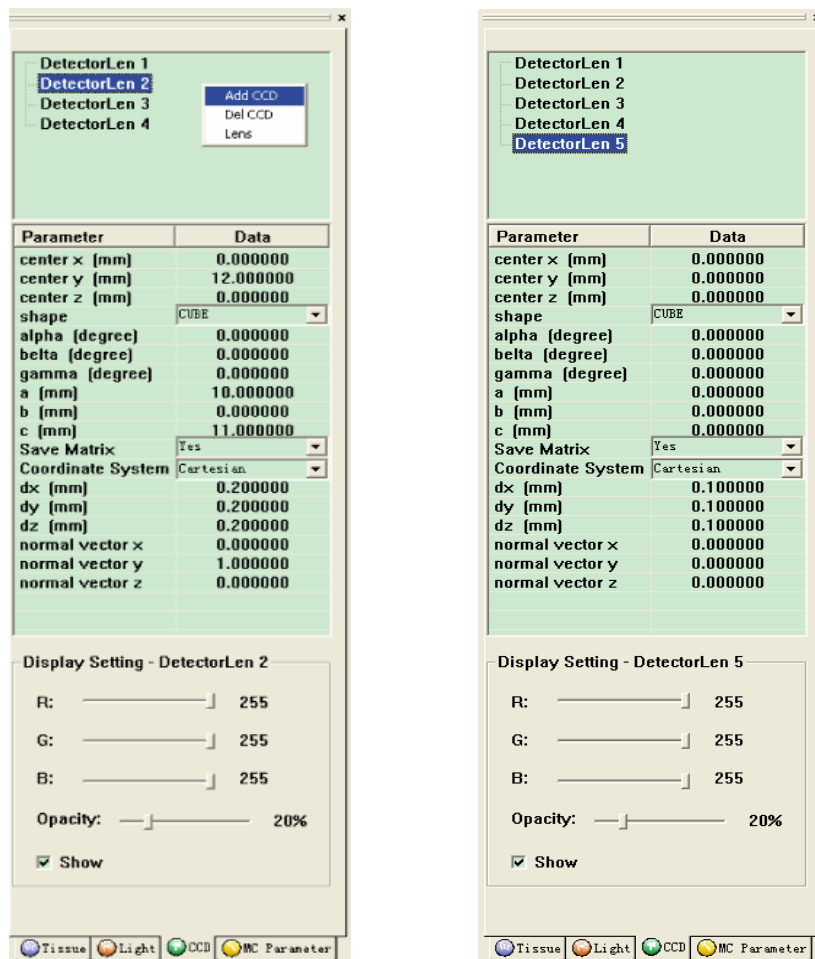
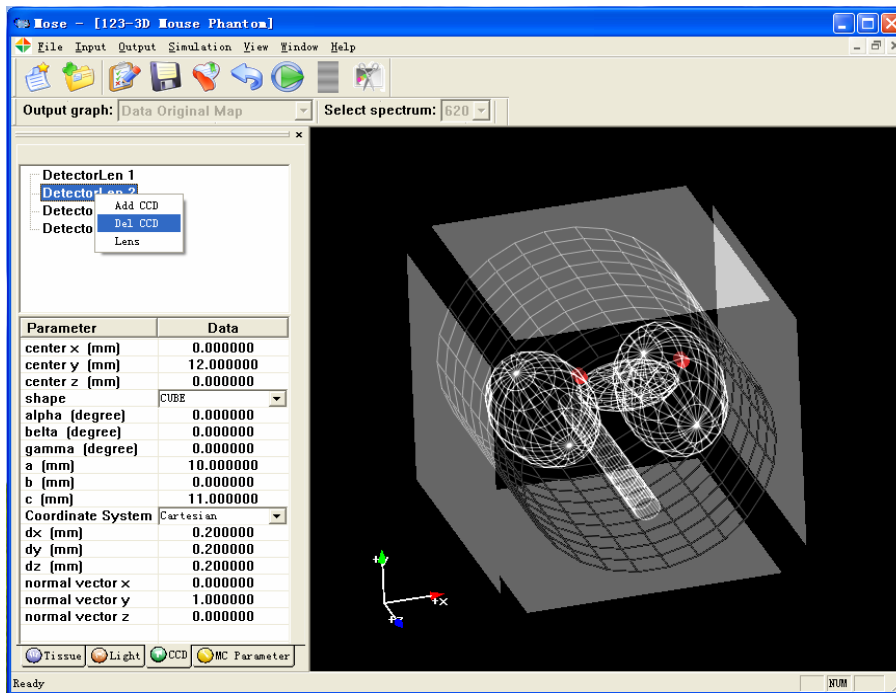
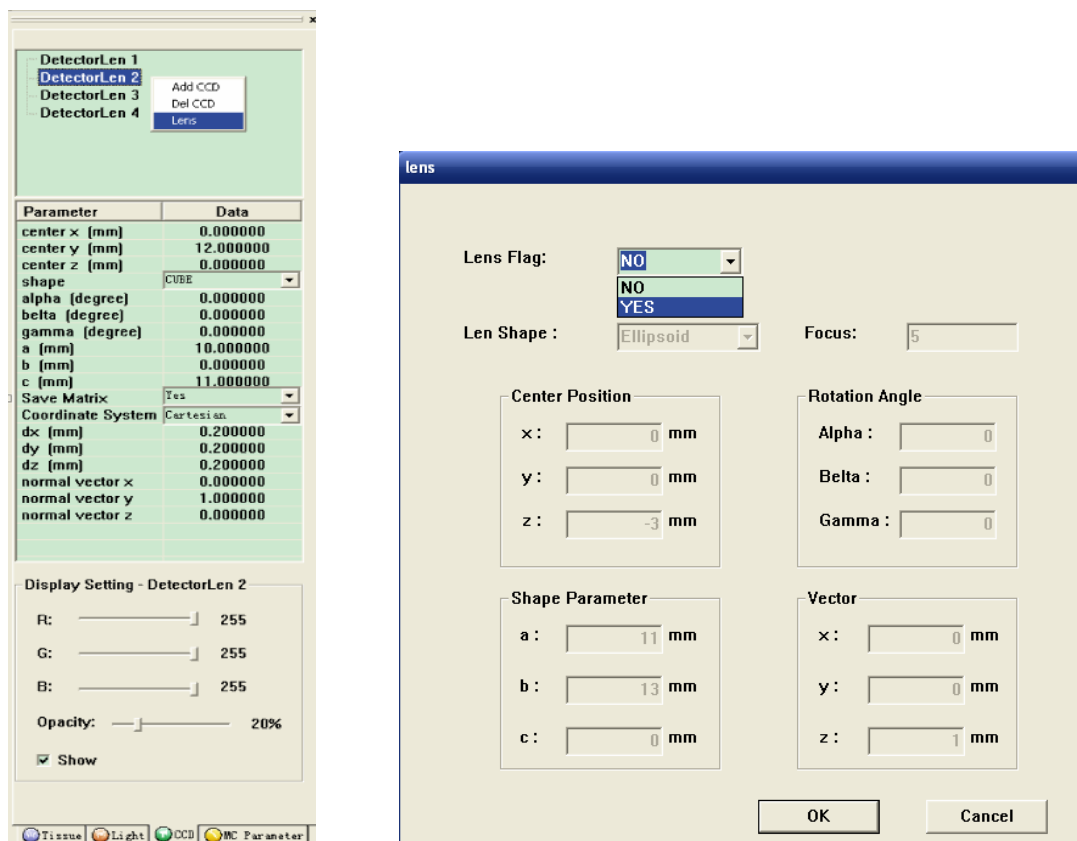

Figure 12-7. Add a CCD detector
Figure 12-8. Delete a CCD detector
Figure 12-9. Set the parameters of lens
c. *CCD List*: All the detectors are shown on the upper list, corresponding information including position and shape parameters which can be modified in the second list. Right click a certain detector, we could add or delete a detector or set the parameters of lens (see Figure 12-7, Figure 12-8, Figure 12-9).